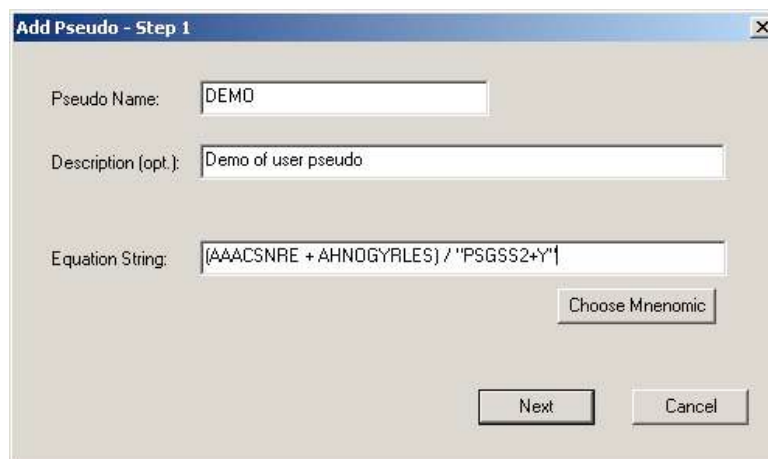

Figure 95: Add Pseudo - Step 1
- Enter the user-defined pseudo-mnemonic name on the “Add Pseudo – Step 1” screen (see *Figure 95*).